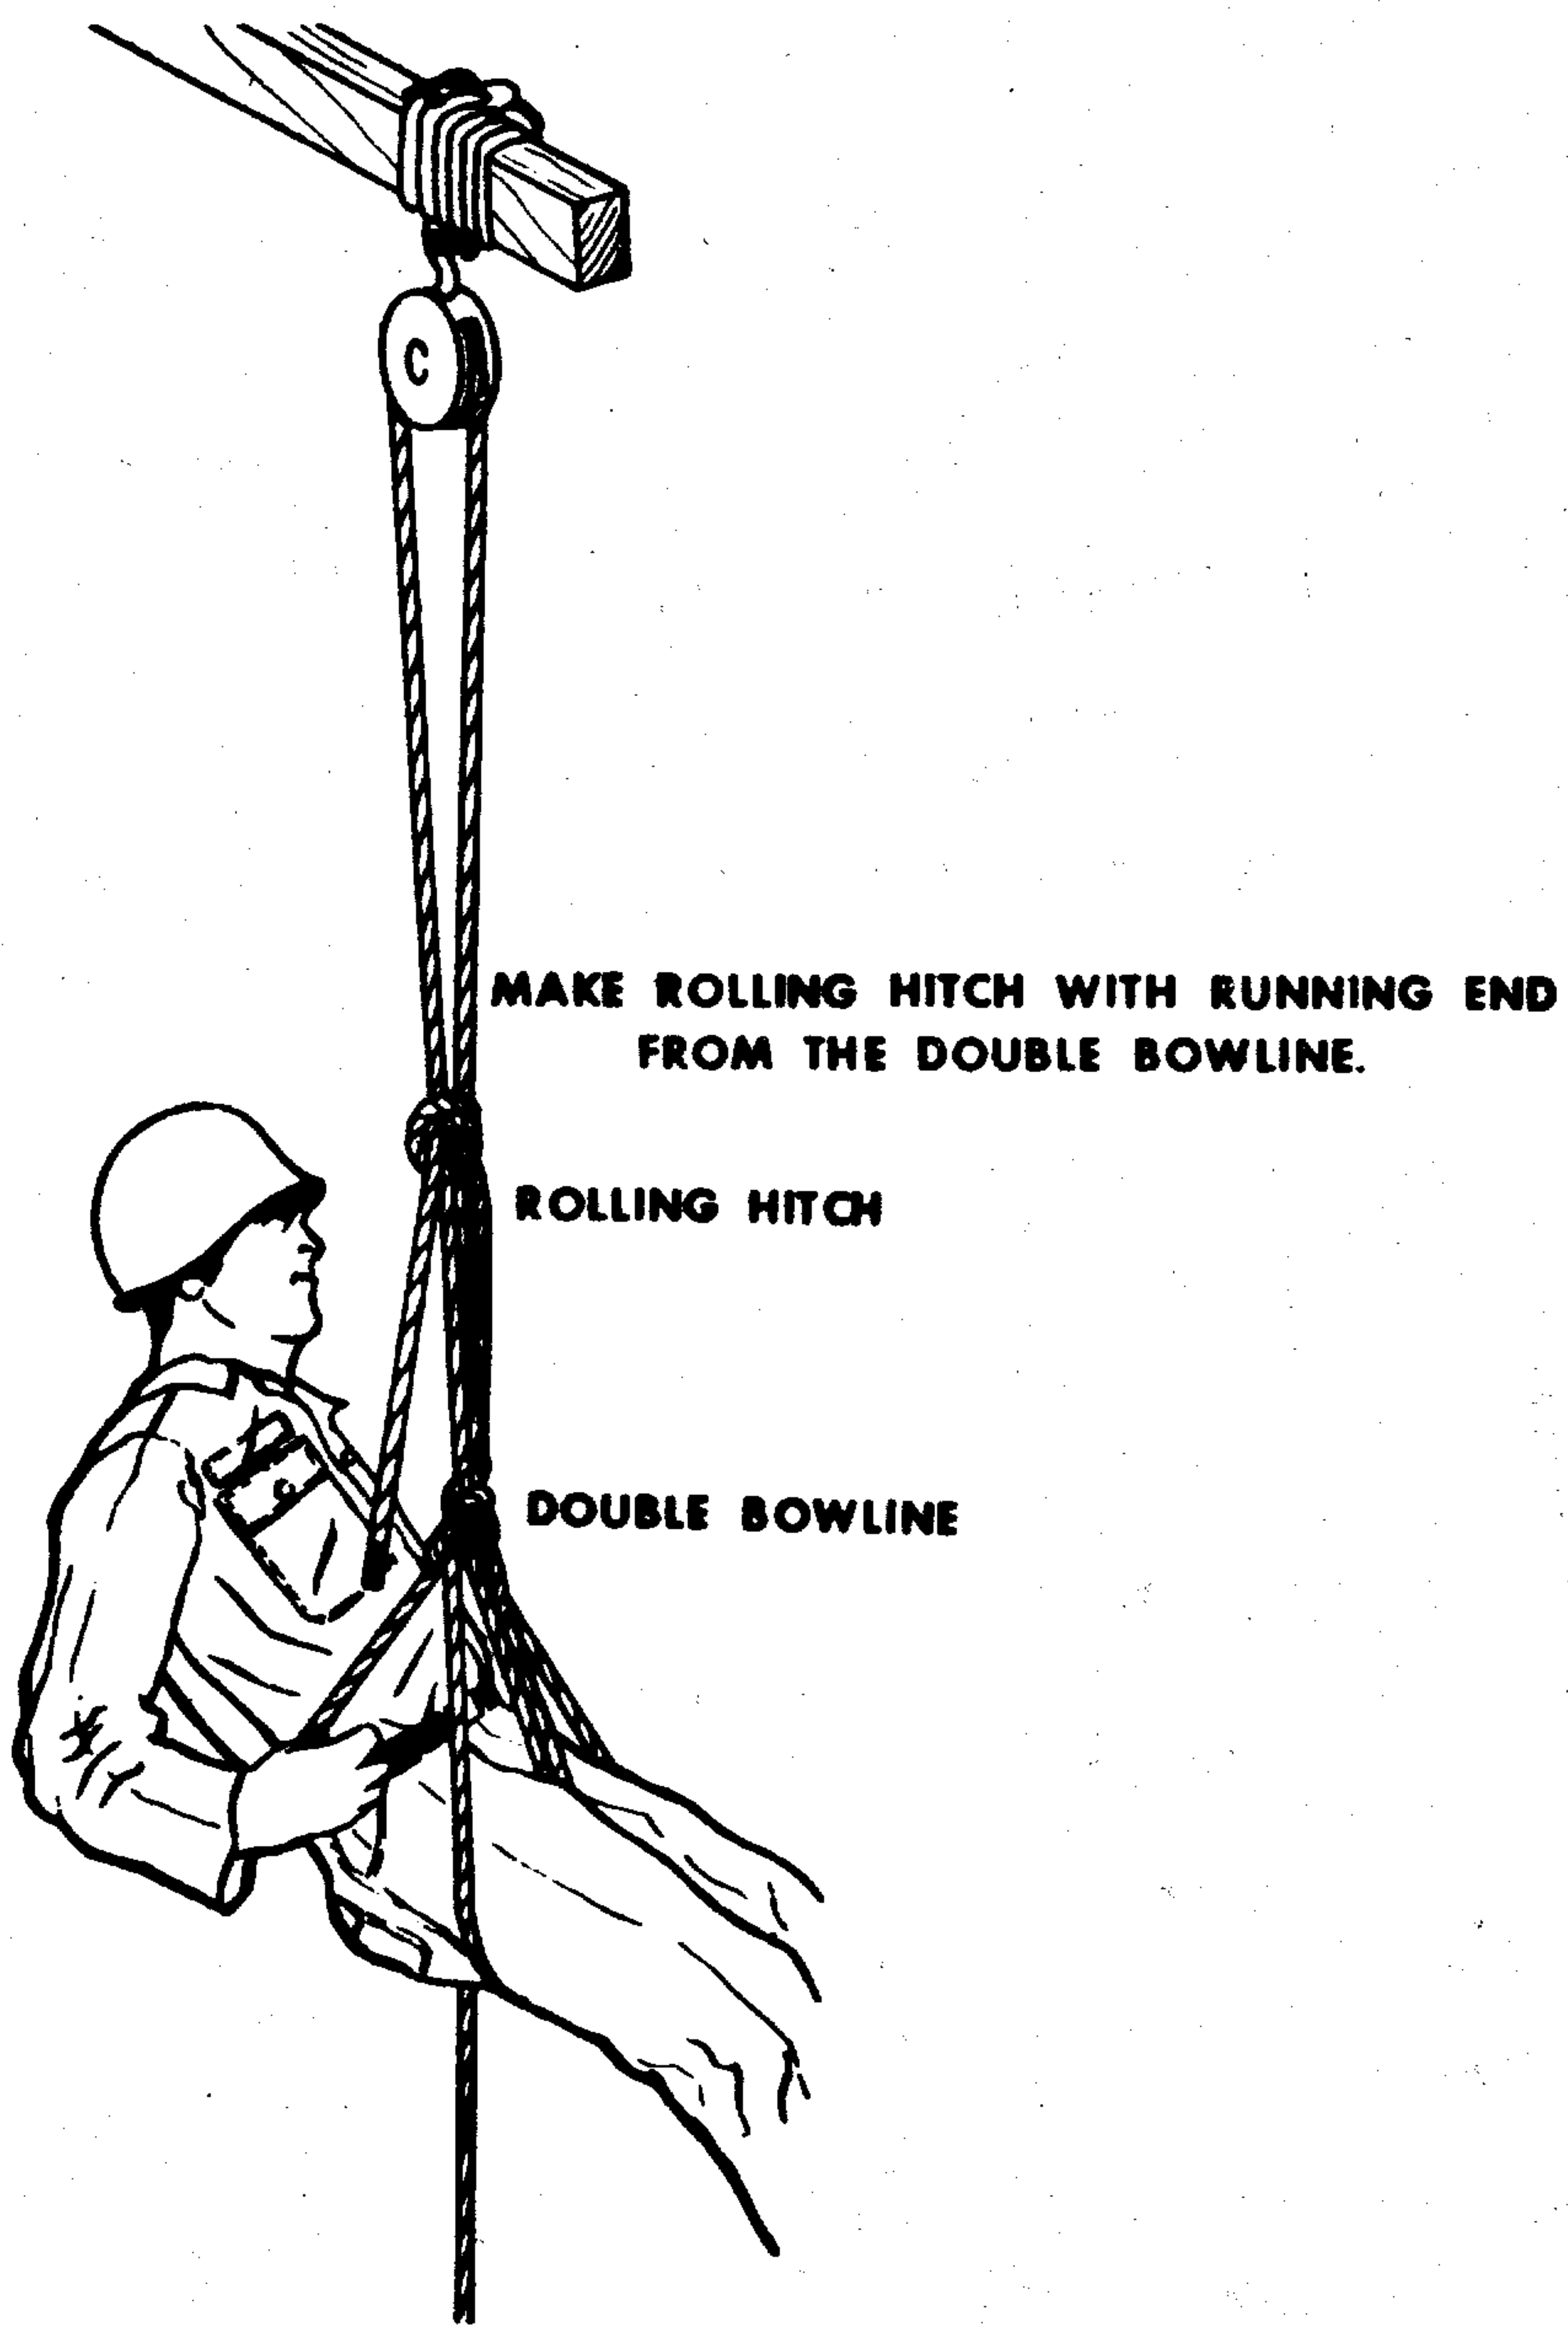

Figure 6-8. Boatswain's chair.
a. Rope Chair. A rope boatswain's chair (fig. 6-8) can be made up by using a double bowline and a rolling hitch. One man can operate the rope seat to lower himself by releasing the grip of the rolling hitch. A slight twist with the hand on the hitch permits the suspension line to slip through it, but when the hand pressure on the hitch is released, the hitch will hold firmly.